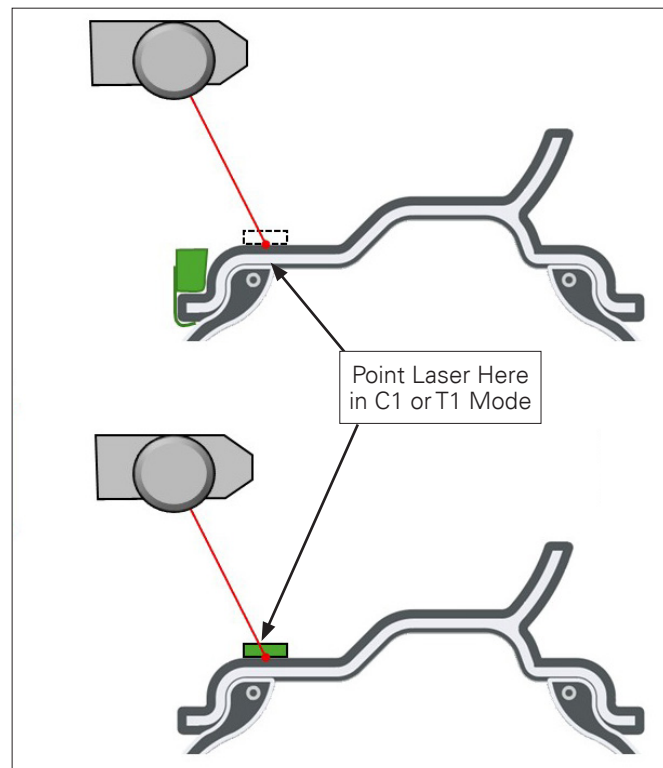

Figure 25 - Automatic Laser Measurement for C1 and T1 Weight Location
2. Position measurement laser dot at Center of T1 weight location using the control knob; tap the left button on screen to enter A & D automatically. (see Figure 25)
For measurement when in clip weight (C1) or tape weight (T1) mode— rotate laser knob until tape weight flange location is reached (Figure 25), Point laser